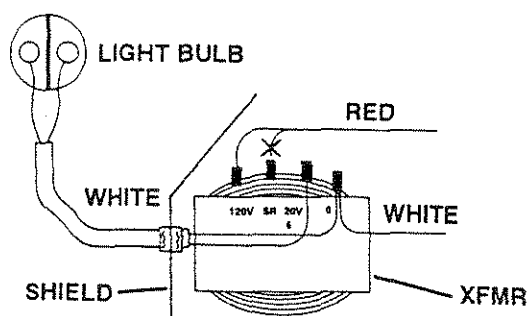

Figure 4. Transformer Wiring Without Intensity Control
7. If SKYTRON Wall Dimmer Control is not being used, the lighthouse bulb transformer output tap must be changed. Unsolder the wire that is attached to the SR terminal and attach it to the 120V terminal. See figure 4.